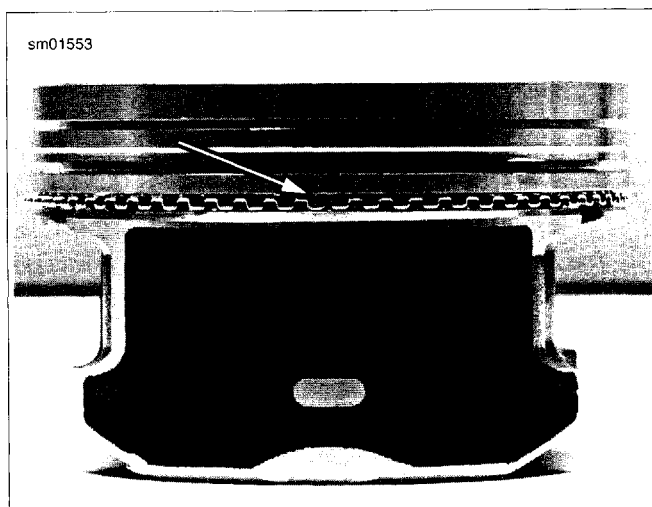

Figure 3-142. Installing Oil Control Ring Expander Spring (typical; XL model shown)
3. See Figure 3-142. Install oil control ring expander spring. Make sure ends of spring point upward. Spiral bottom oil control ring into space in ring groove below expander spring. Position oil control ring gap 90 degrees from gap in expander spring. Spiral top oil control ring into space in ring groove above expander spring. Position oil control ring gap 180 degrees from gap in bottom oil control ring